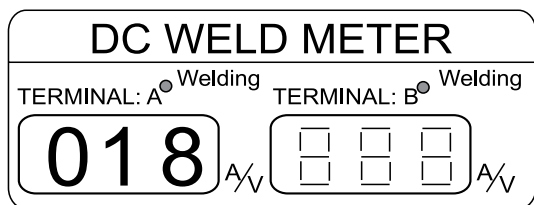

Figure 41. DC Weld Meter (18 VDC)
- The selected voltage will be displayed on the DC weld meter (Figure 41).